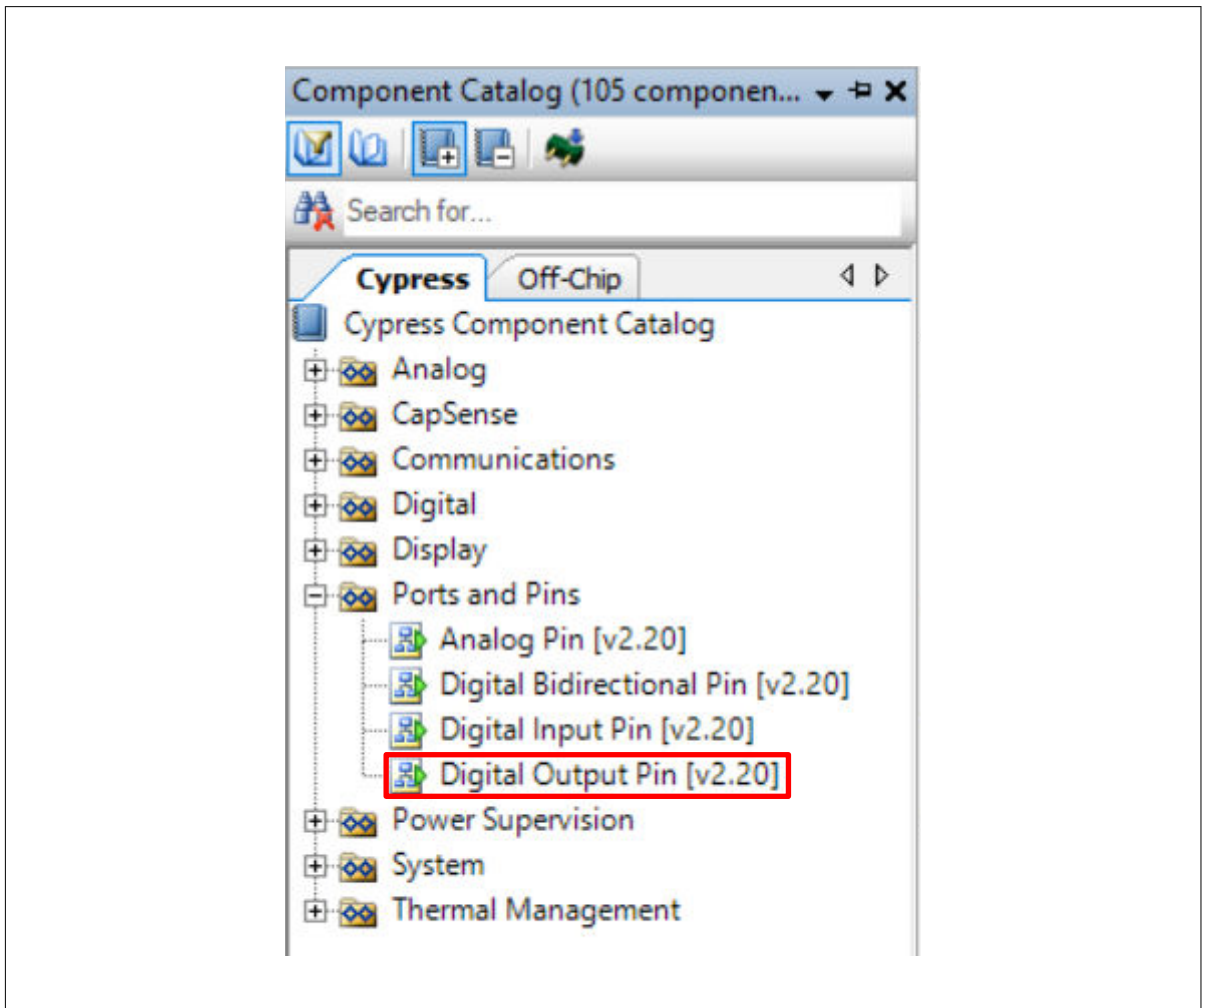
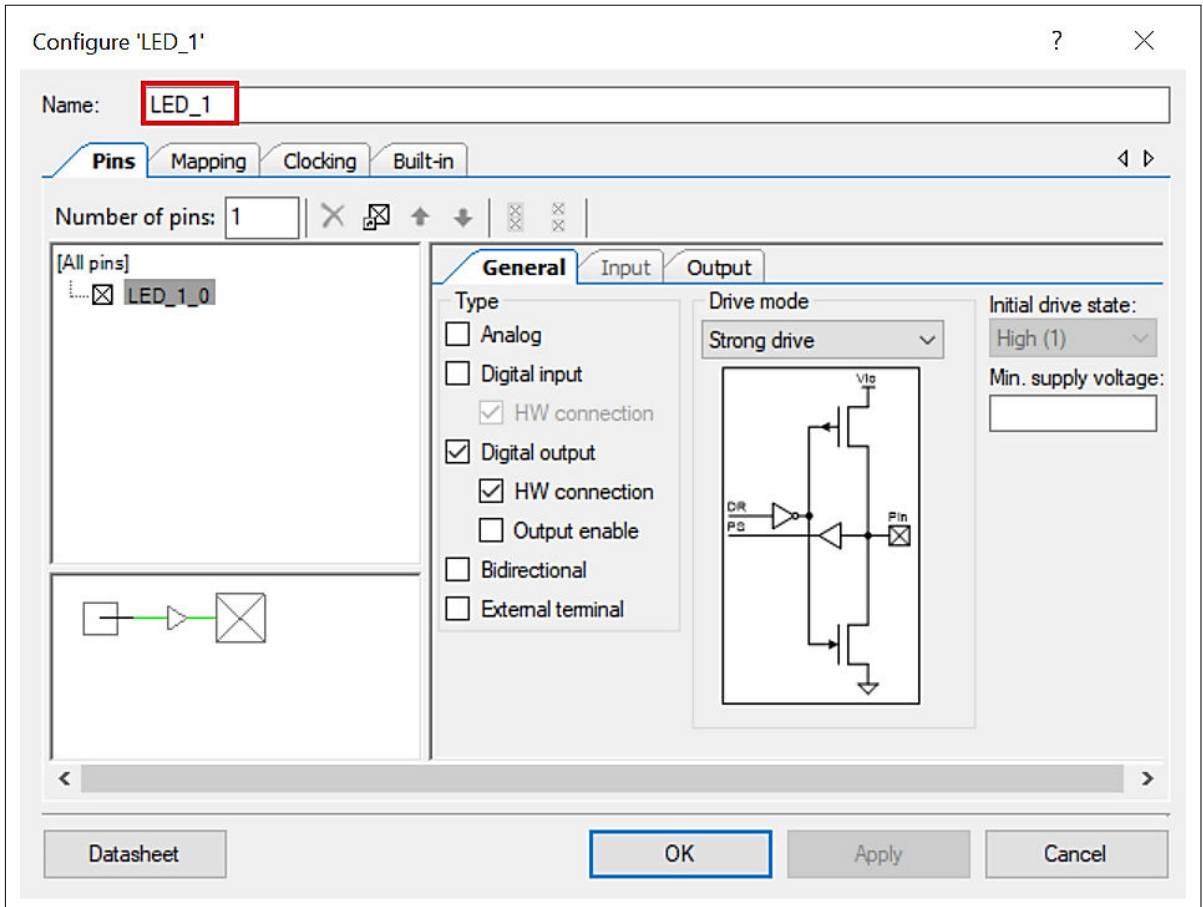

Figure 42 Location of the digital output pin Component
Figure 43 Renaming a pin Component
9. Drag and drop a **Digital Output Pin** Component. Change the name to LED_1 as shown in Figure 42 and Figure 43. Add another Digital Output Pin Component and change its name to LED_2.